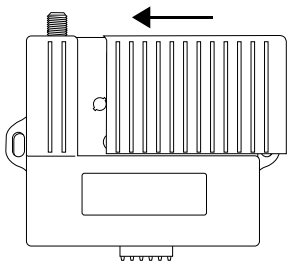

Fig. 3
**Step 5.** Close the access door on the receiver. See Fig 3.